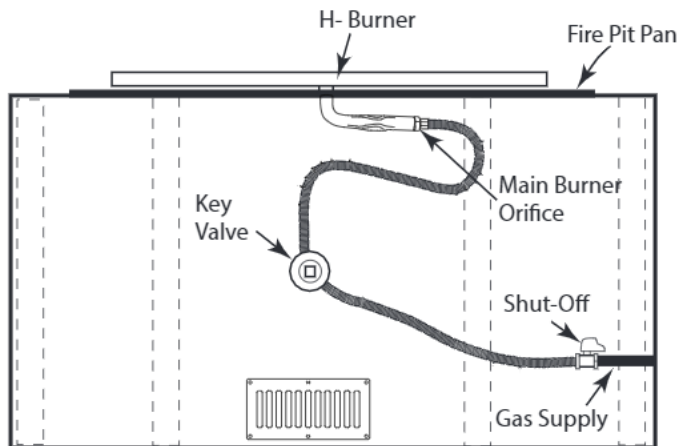

Fig. 10 Shows main burner orifice location.
Step 4: Remove the 3/8" flex connector from the main burner orifice. See Fig. 10 for reference.